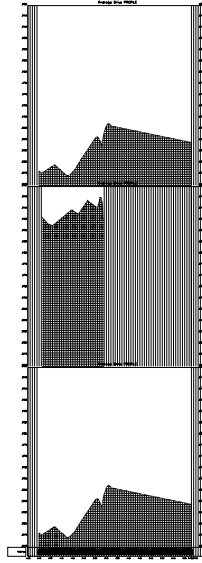

Figure 6-59 The top, middle, and bottom stacked profile views
15. Click at the required location; the three stacked profile views are created, as shown in Figure 6-59.